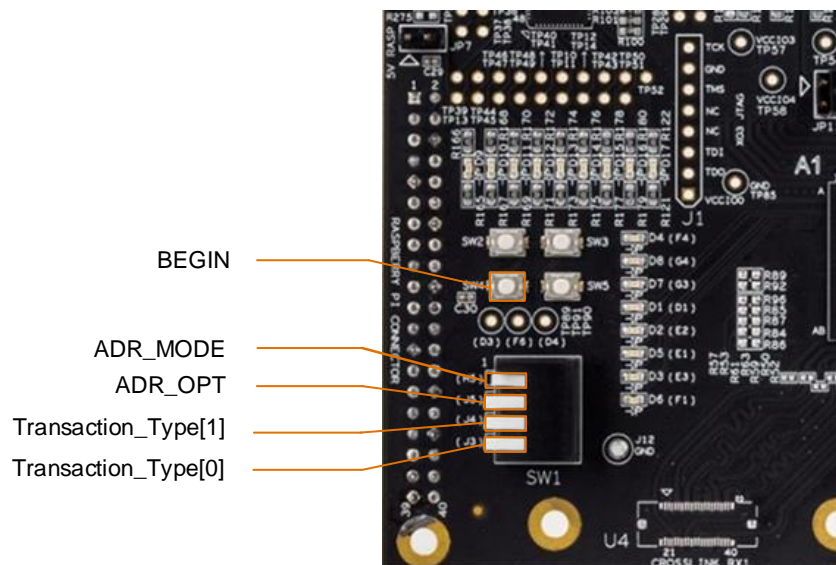
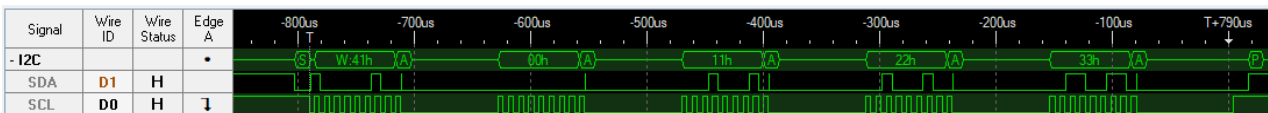
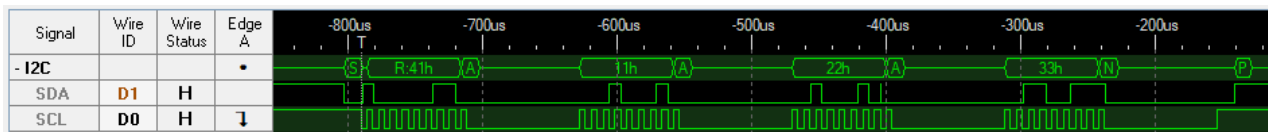
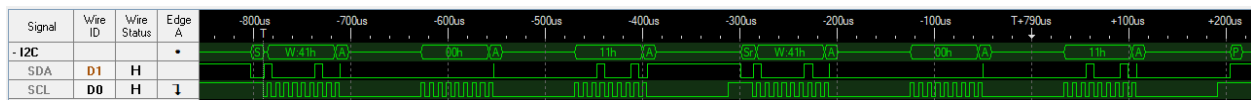

Figure 6.2. Slave Address and Transaction Settings
Figure 6.3. I²C Write Transaction
Figure 6.4. I²C Read Transaction
Figure 6.5. I²C Write Transaction with Repeat Start
5. Using Figure 6.2 and Table 6.1 as a guide, put ADR_MODE and ADR_OPT switches to 0 (down) so that the master can access slave address 0x41 (0b1000001).
6. Using Figure 6.2 and Table 6.2 as a guide, select the desired transaction type and press **BEGIN** until an I²C transaction is registered in the logic analyser as shown in Figure 6.3, Figure 6.4, or Figure 6.5.